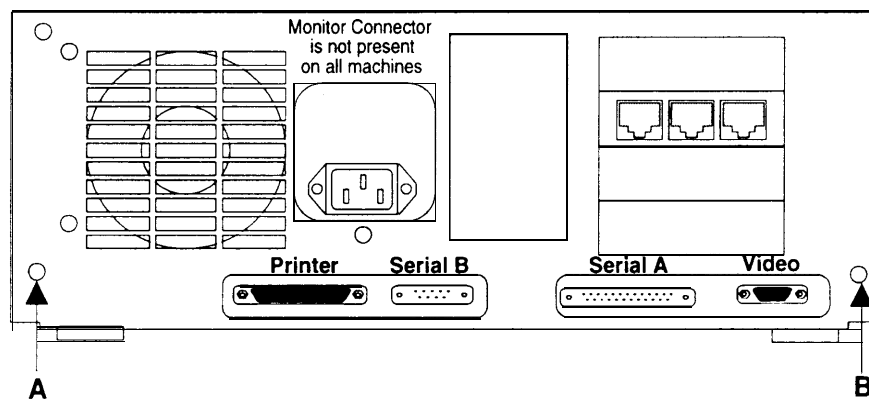

Figure 3-1. Master Controller II+ Cover Screws
3. Remove the two main cover-securing screws (A and B) on the back panel as shown in Figure 3-1.